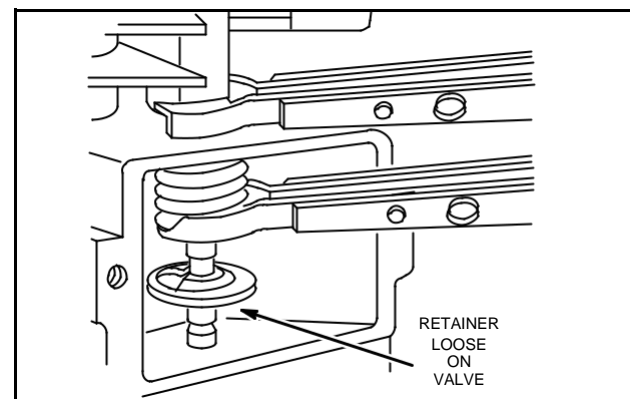

Fig. 9 – Removing Retainer – Intake
1. Insert one jaw of Valve Spring Compressor, Tool #19063, between intake valve spring and retainer. The other jaw is placed on outside wall of valve tappet chamber around intake valve guide, Fig. 9.